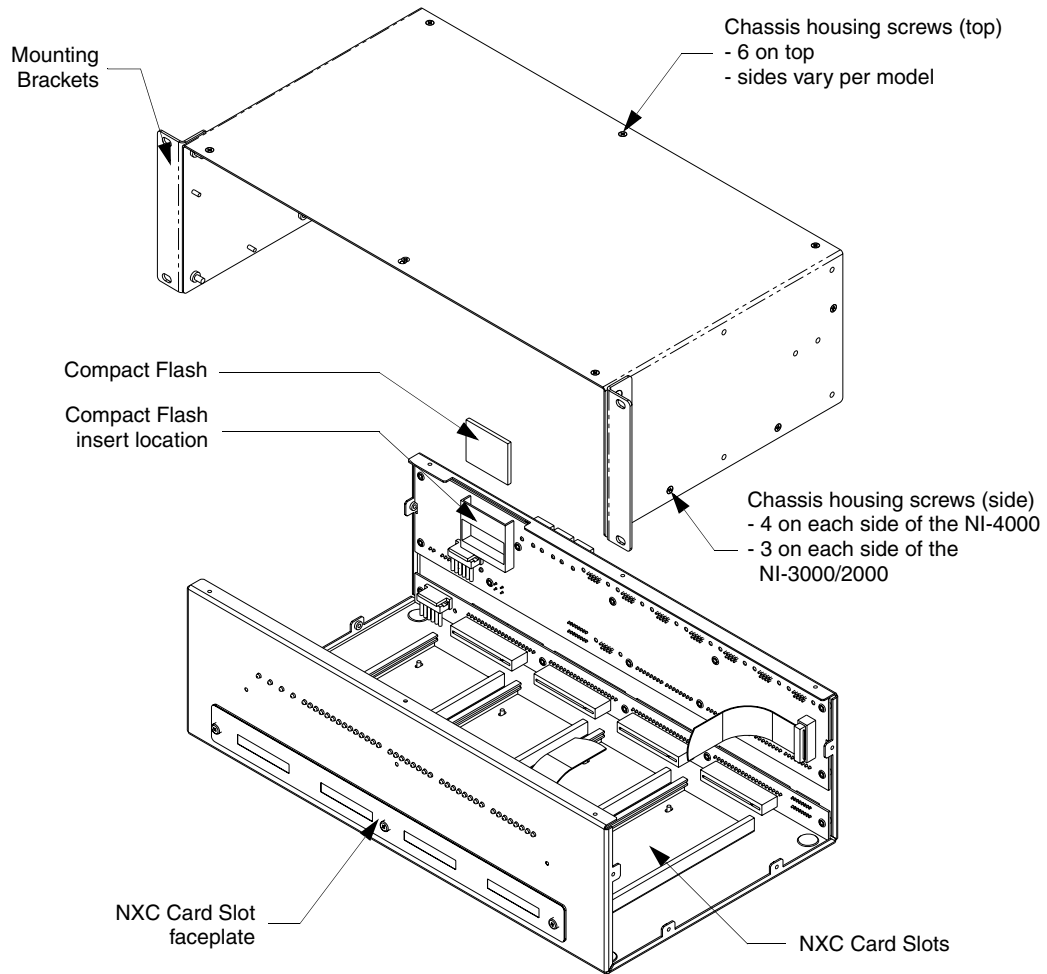

FIG. 20 Location of the Compact Flash within a sample Integrated Controller
2. Remove the chassis housing screws from both the sides and top of the Controller, as shown in FIG. 20 by using a grounded screwdriver turning in a counter-clockwise rotation.
3. Carefully pull-up and remove the housing up and away from the Controller to expose the internal circuit board (FIG. 20).
2. Locate the 32 MB Compact Flash card on the main board. For more detailed information on component locations, refer to FIG. 20.
3. Insert the chassis housing screws into their respective locations, as shown in FIG. 20.